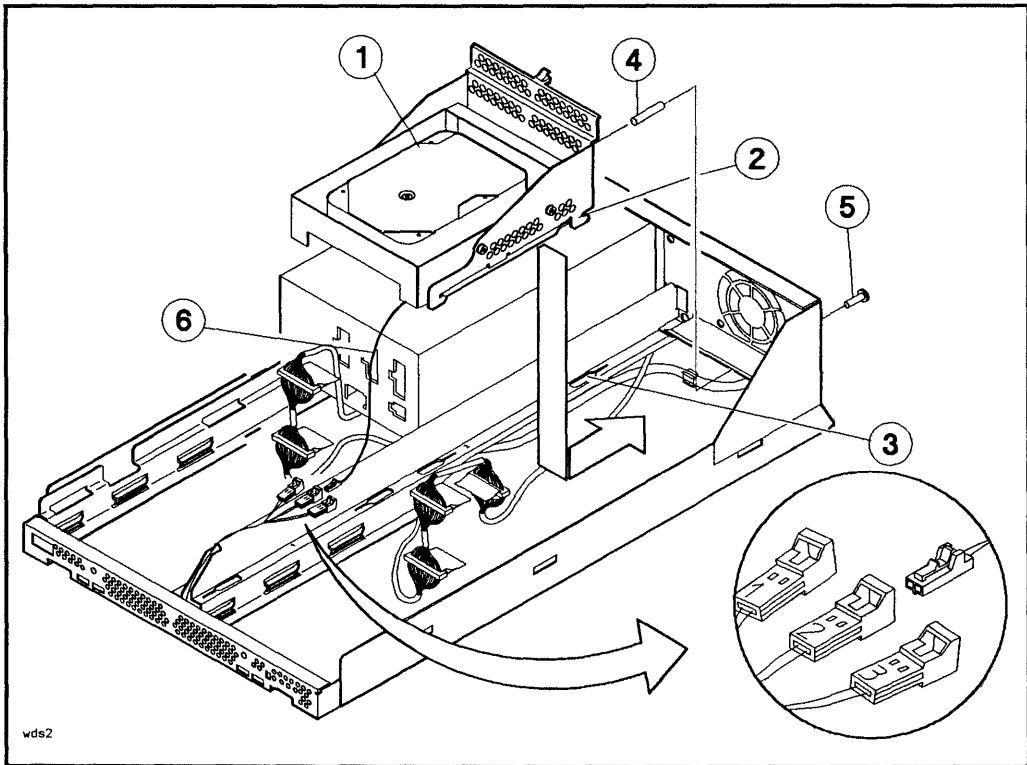

Figure 3-5. Installing the 3.5-inch Hard Disk Drive into Slot 2
- If you are installing a drive into slot 2 (the rear slot), push down on the drive and slide it toward the rear of the mass storage system chassis until the mounting tabs lock into the mounting slots (see Figure 3-5). Tighten the T25 bracket screw through the hole in the rear of the mass storage system chassis into the drive bracket.
2. If you are installing the drive in slot 2 (right rear), connect the disk status cable (see Figure 3-5) to the SCSI status connector number 2.